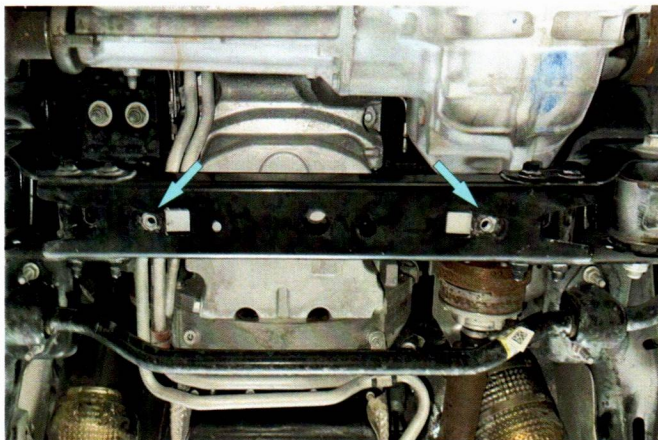

Fig. 3
3. Remove factory nuts and Install insert nuts M10 (item A) as shown in fig.3.